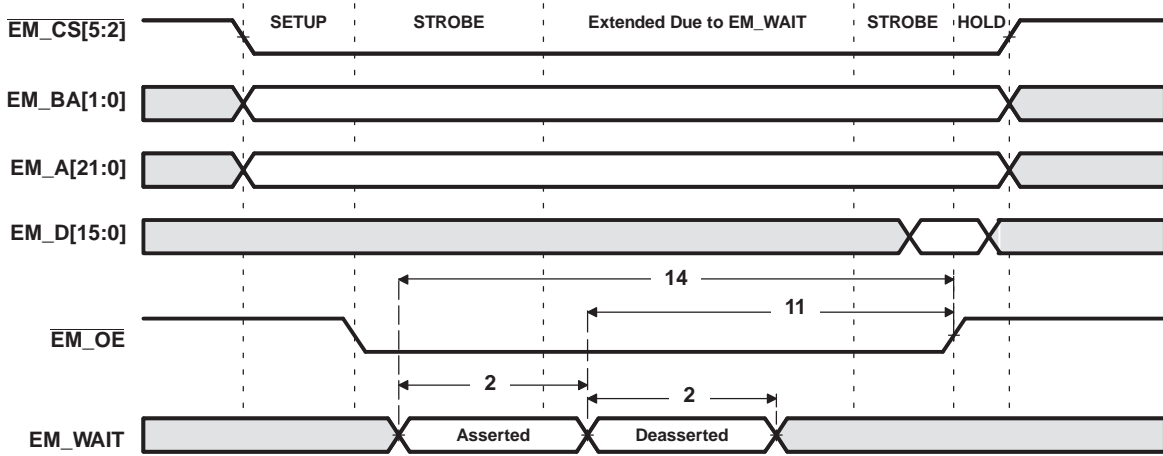
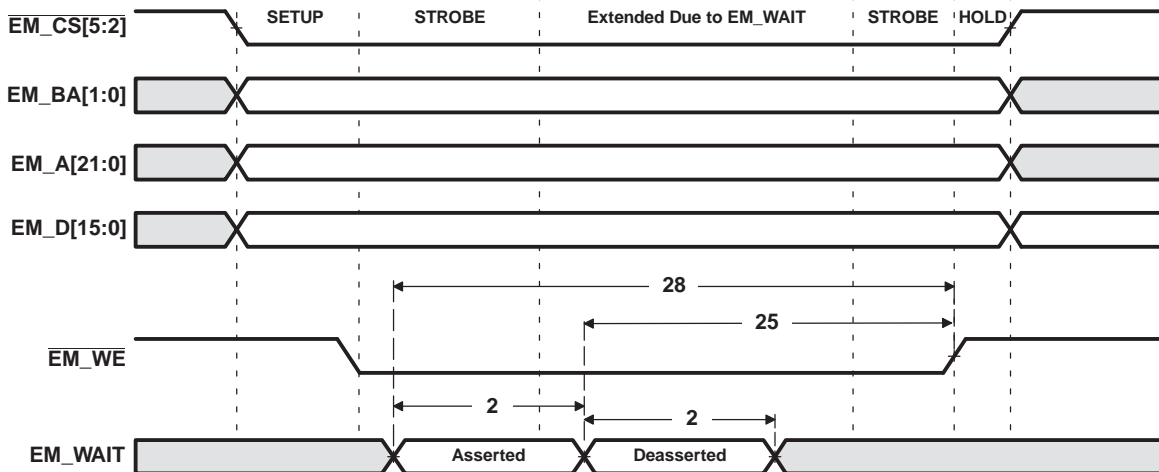

Figure 6-23. EM_WAIT Read Timing Requirements
Figure 6-24. EM_WAIT Write Timing Requirements
(1) E = SYSCLK5 period in ns for EMIFA. For example, when running the DSP CPU at 405 MHz, use E = 14.8 ns.
(2) Setup before end of STROBE phase (if no extended wait states are inserted) by which EM_WAIT must be asserted to add extended wait states. Figure 6-23 and Figure 6-24 describe EMIF transactions that include extended wait states inserted during the STROBE phase. However, cycles inserted as part of this extended wait period should not be counted; the 4E requirement is to the start of where the HOLD phase would begin if there were no extended wait cycles.